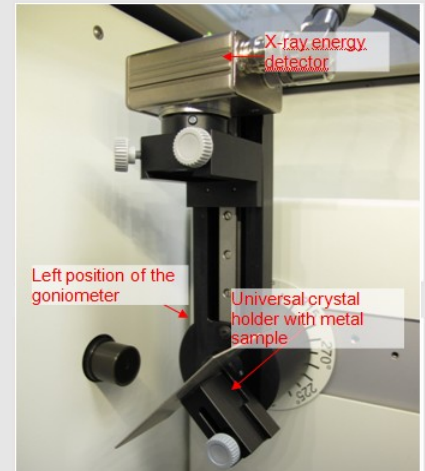

Fig. 4: Goniometer set-up
- Bring the goniometer block and the detector to their respective end positions on the left. Bring the detector to the 90° position in the 2:1 coupling mode (Fig. 4).